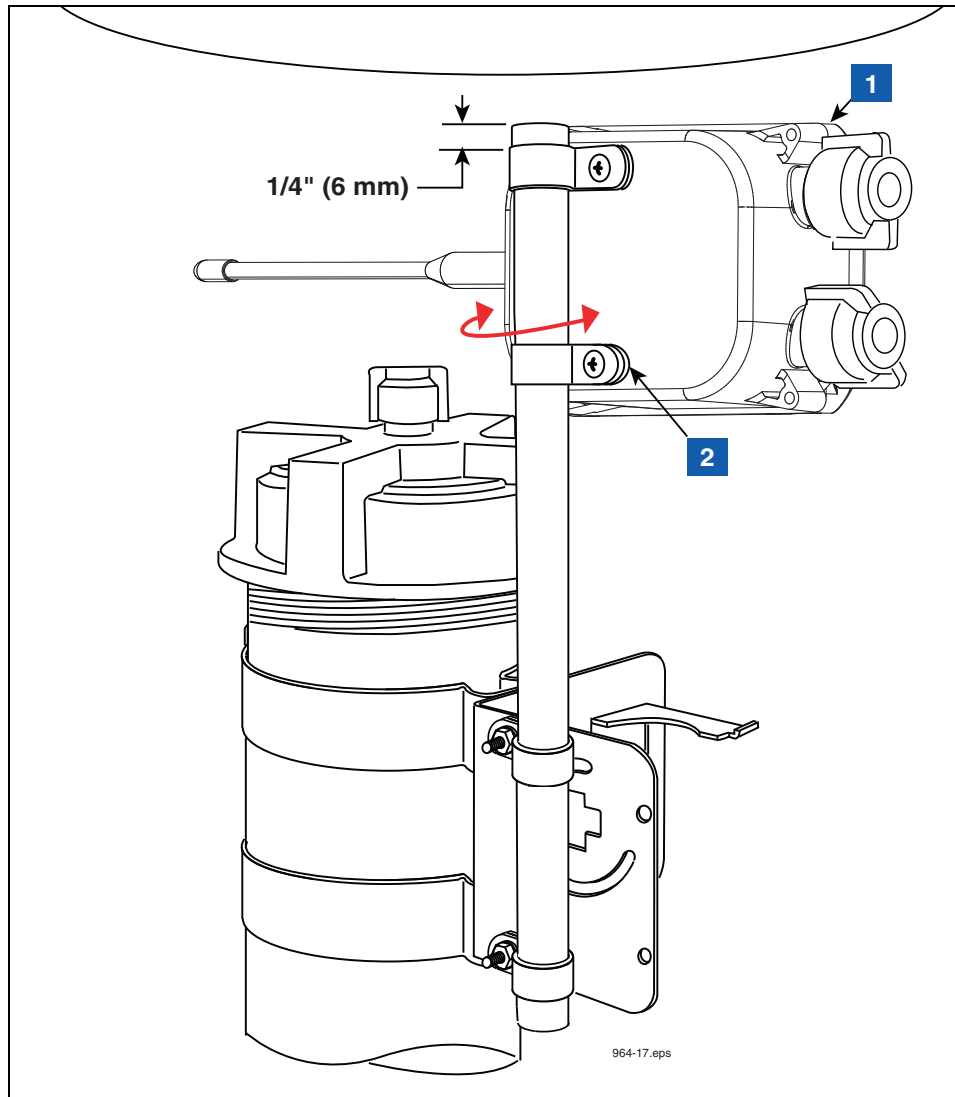

Figure 17. Installing Transmitter onto Support Conduit
5. Loosen the clamps on the back of the Transmitter and slide the two clamps down over the conduit as shown in Figure 17. Position the Transmitter until the top clamp is about 1/4" below the top of the conduit and tighten the clamps just enough to keep the Transmitter from sliding down.
LEGEND FOR NUMBERED BOXES IN Figure 17